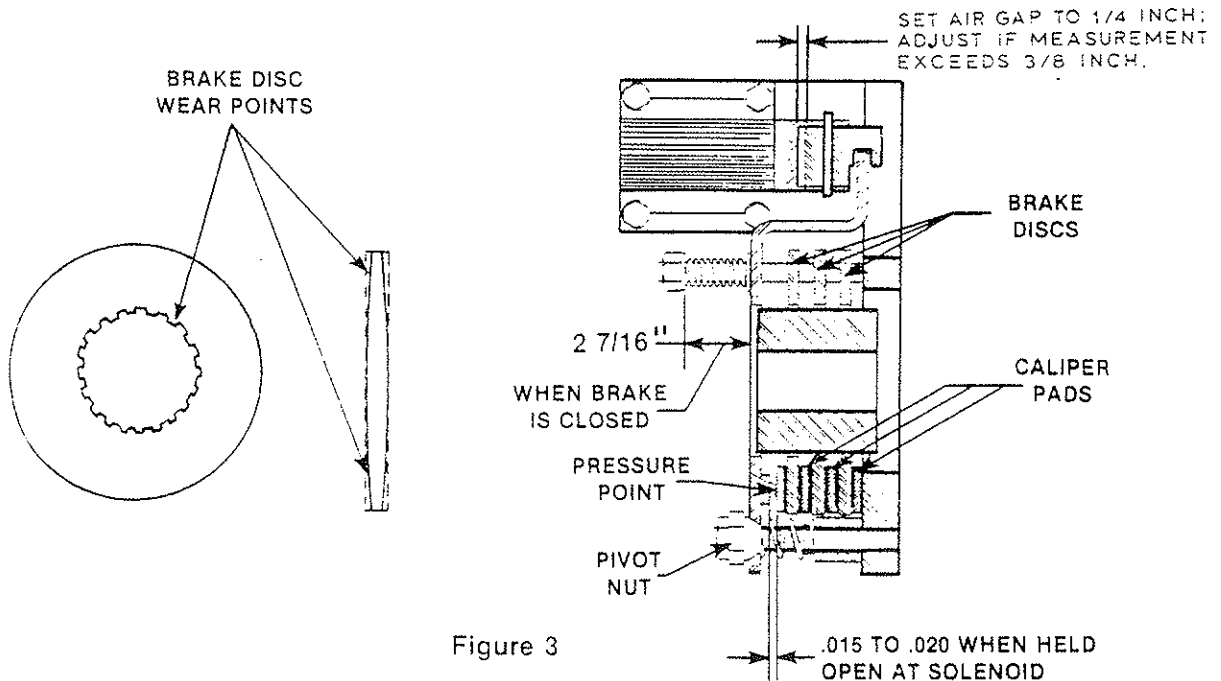

Figure 3
4. Hoist Brake - Check for excessive or uneven wear of the discs and caliper pads, and excessive play between the splines in the discs and the brake hub. Clean the solenoid plunger seat and check for uneven seating between the plunger and the coil. Manually hold the brake open and check adjustment as shown in Fig. 3.